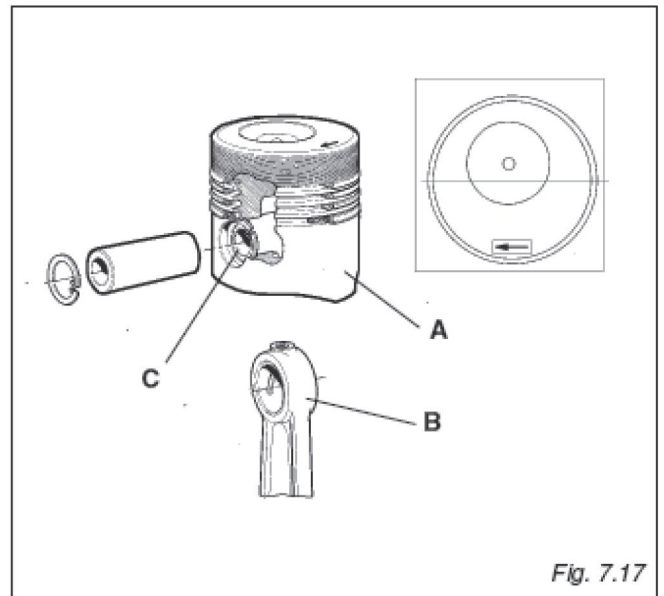

Fig. 7.17
**7.11 PISTON TO CONNECTING ROD (FIG. 7.17)**